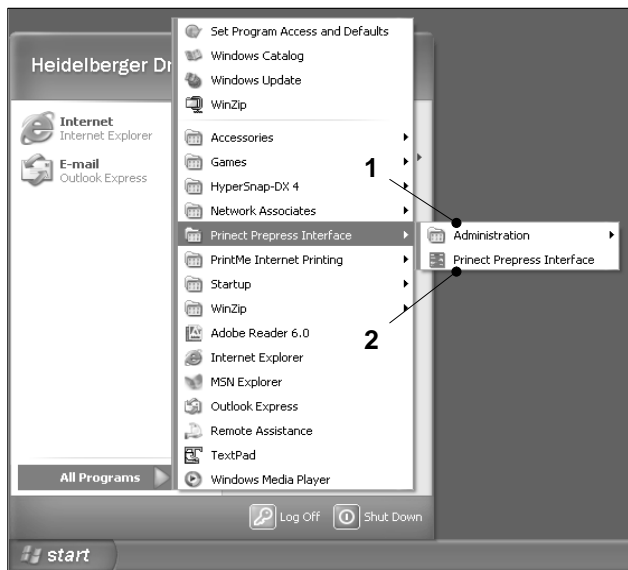

Fig. 9 Windows start menu
The Prinect Prepress Interface program in the Windows start menu (Fig. 9) contains two submenus:
- the desired program (Fig. 9/2) or the program element (Fig. 9/1) you want to open.